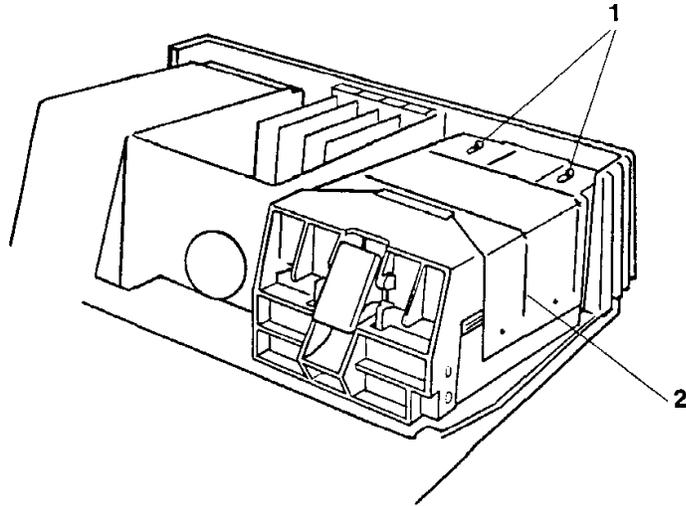

FIGURE 5
1. To get to the analog board you must first remove the disk assembly shield. To do this, use a flat blade screwdriver to slide the two Tinnerman retaining clips on the disk assembly shield forward. (See Figure 5, Item 1).
2. Remove the disk assembly shield by flexing the side out (See Figure 5, Item 2) and lifting up on the shield.